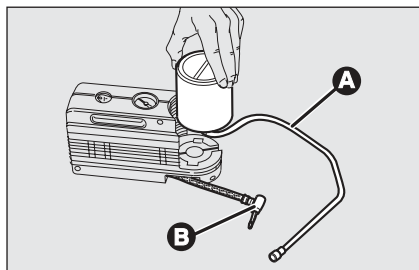

fig. 20
- ☐ disconnect connection **B**-fig. 20;